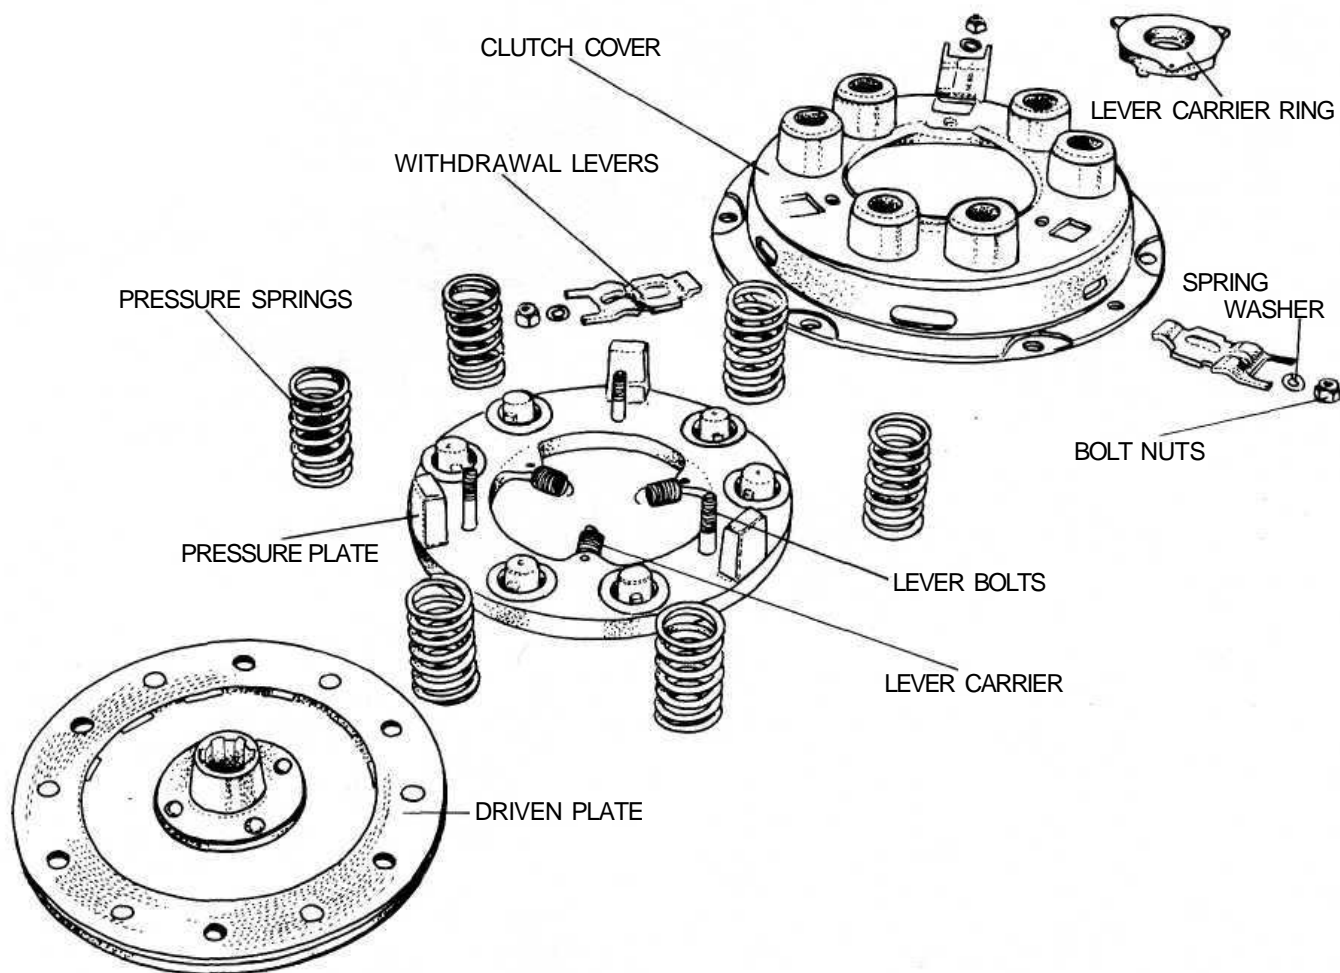

FIG 5:2 Clutch components (new 500, 500D sedan and early station wagon)
- 1 Place the pressure plate complete with carrier ring bolts and springs on Fiat fixture 62038 (see **FIG 5:2**).